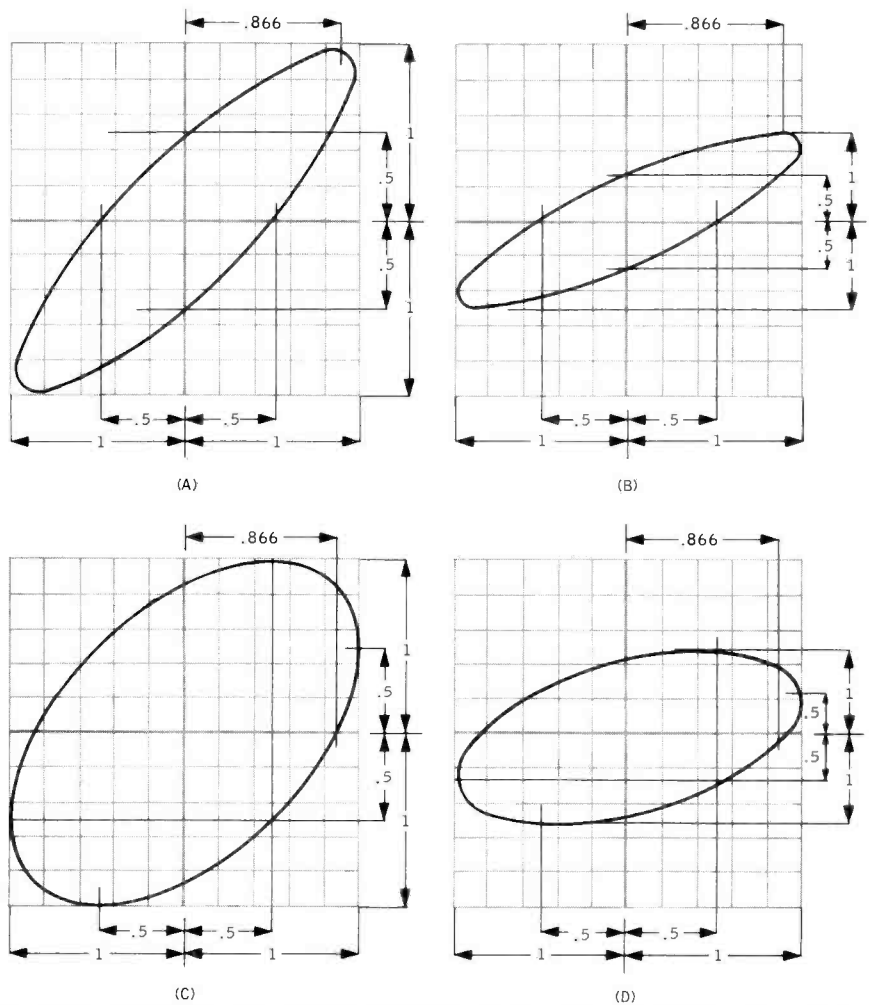

Fig. 17-4. Interpreting the ellipses obtained to give the impedance value phase. The top two traces each represent a phase of 30° and the bottom two one of 60°.
Several references have been made to determining phase from the elliptical trace of an oscilloscope. A few tips help in making an accurate assessment of phase angle, where a good measurement is possible. The easiest angles to read belong to traces where vertical deflection equals horizontal, as in *Fig. 17-4*, (A) and (C). But the method of reading magnitude and
phase at once, without disturbing the 'scope calibration for magnitude, make it more convenient to use ellipses where height is sometimes not equal to width, as in (Fig. 17-4, (B) and (D)).
For angles less than 45 deg., such as 30 deg., it is best to use the ellipse's intercepts on the axes. See Fig. 17-4, (A) and (B). These, expressed as a fraction of the maximum deflection in each direction, will give the sine of the angle. Note that when vertical deflection is not equal to horizontal, the units for comparison are different.
For angles more than 45 deg., such as 60 deg. it is best to use the points where the ellipse is tangential to its boundaries, as in (C) and (D) of Fig. 17-4. These measurements, expressed as a fraction of the maximum deflection in each direction, give the cosine of the angle.